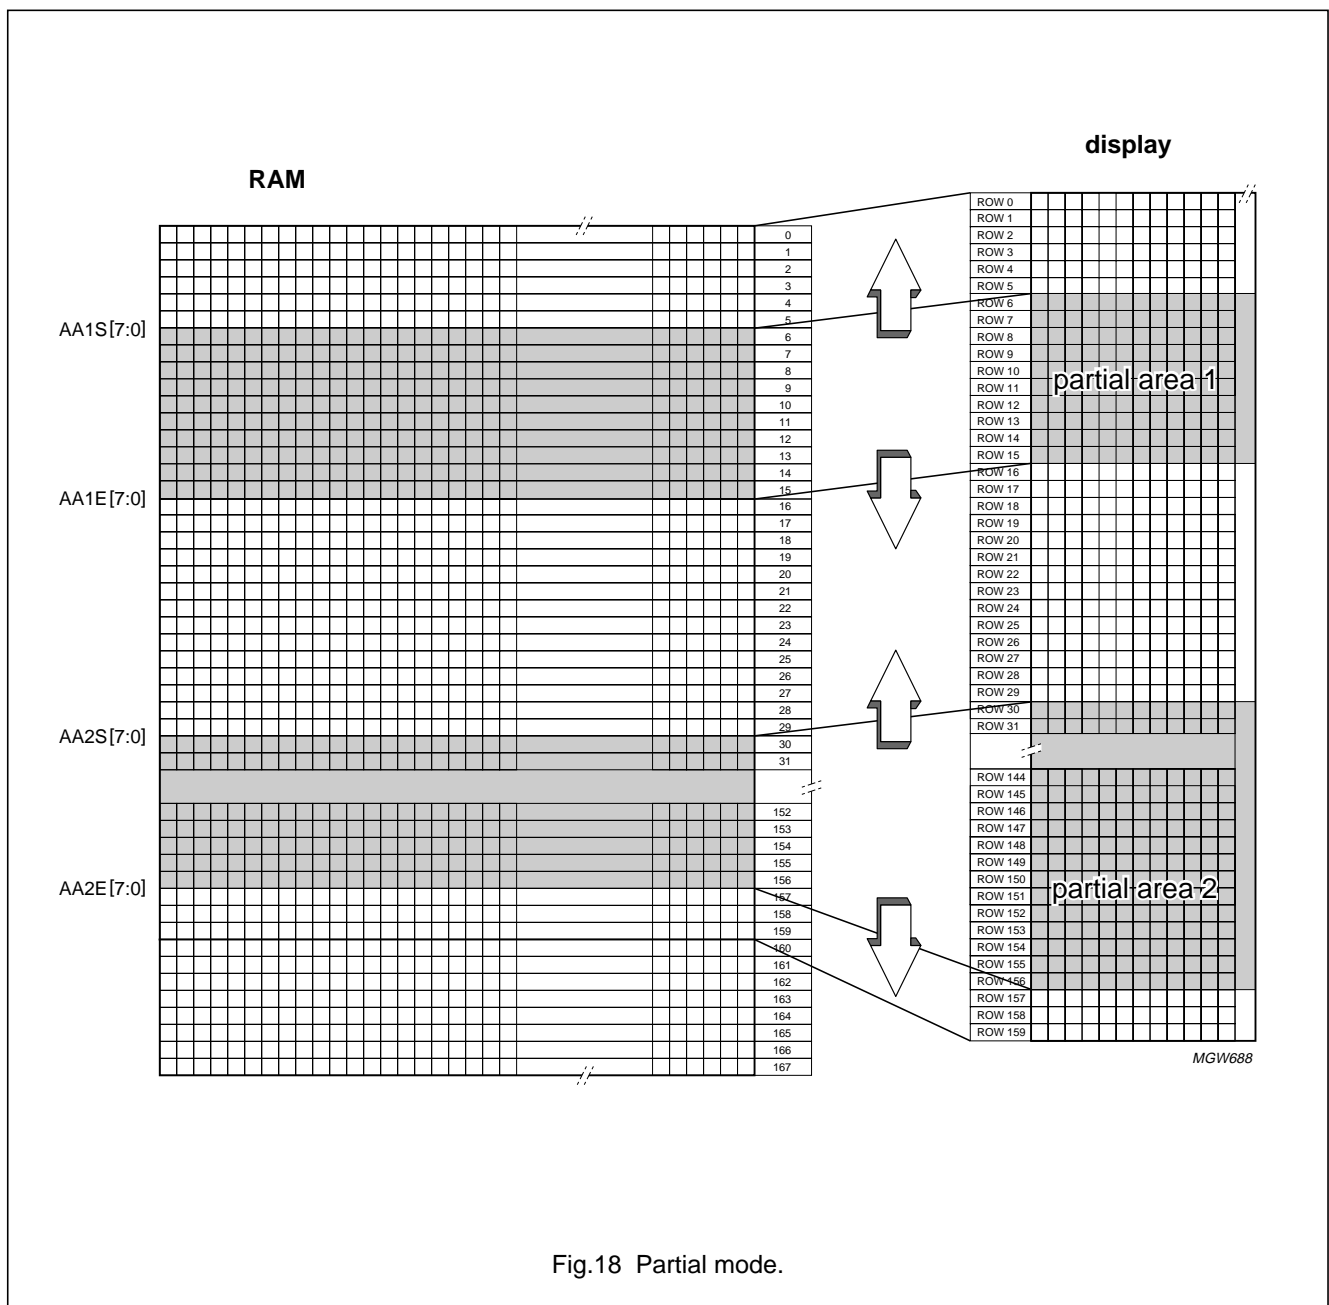

Fig.18 Partial mode.
The following steps must be performed to enter partial mode (PM), refer to Fig.18: